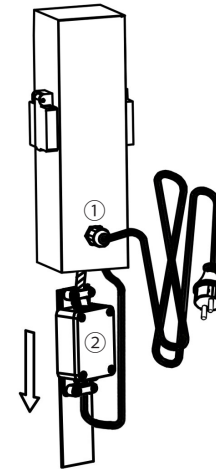

fig. 1
fig. 1: Loosen the cable gland ① and pull out the connection box ②. Unscrew the 4 screws of the junction box ②, open the box and remove the cable with the plug. When connected to a distribution box, only the plug can be removed.